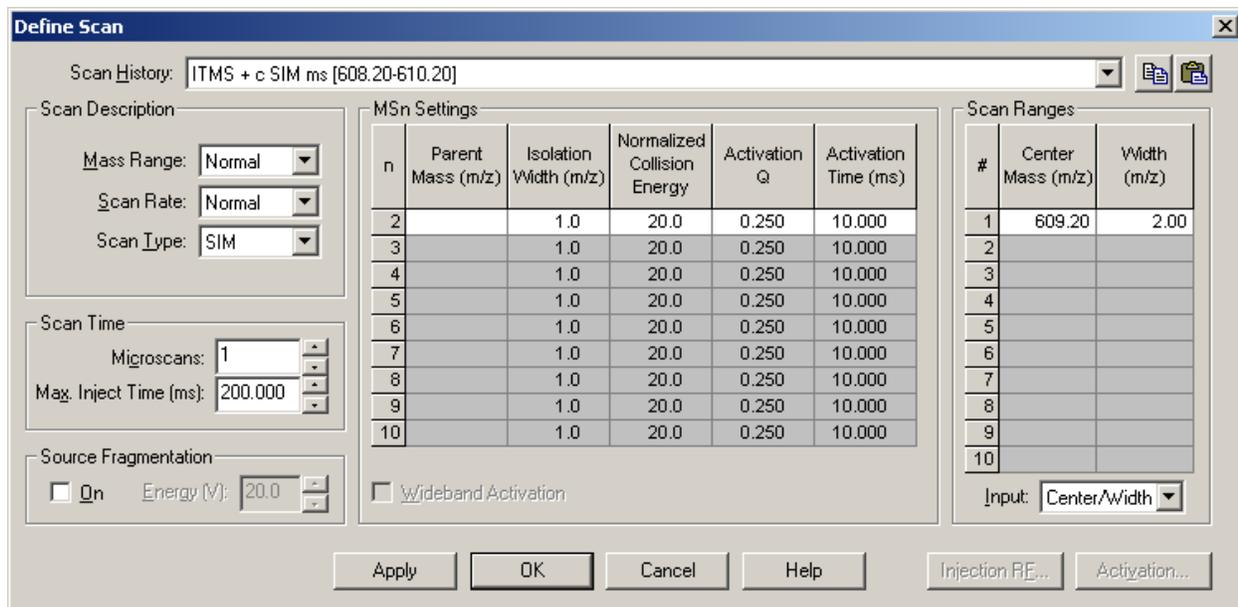

Figure 45. Define Scan dialog box, showing typical settings for acquiring reserpine data in the SIM scan type
- a. Click the Define Scan button to open the Define Scan dialog box. See Figure 45.
- b. Compare the values in your dialog box to those in Figure 45 and click **OK**.